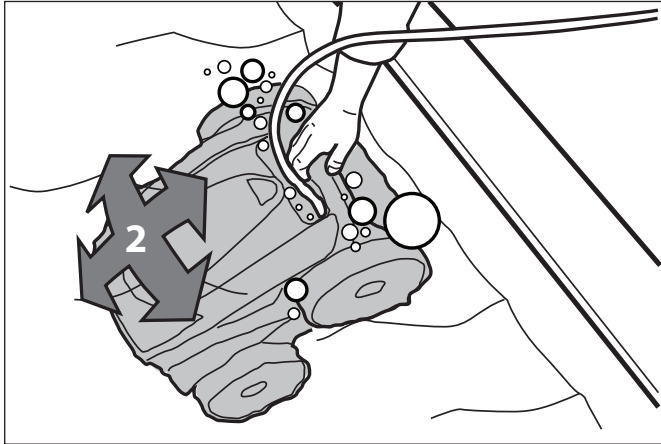

Figure 14. Cleaner Sinking to the Bottom of the Pool
2. Ensure the unit sinks to the bottom of the pool and does not float (Figure 14).